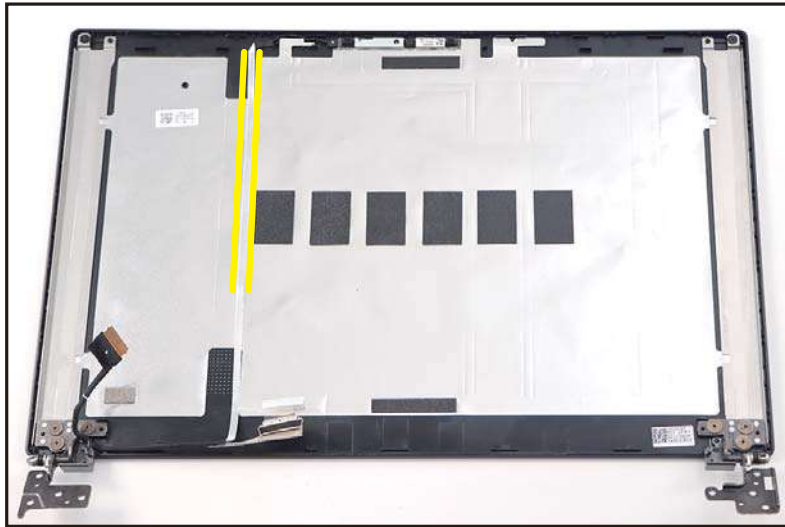

Figure 3-73. Replacing the LCD Cable
3. Continue to route the LCD cable through the cable guides on the LCD cover as shown in Figure 3-73. If necessary, press and straighten the cable to ensure its underneath adhesive is properly attached to the LCD cover.
Make sure the LCD cable is properly placed onto its designated cable routing path highlighted by the yellow and green lines as shown in Figure 3-73.